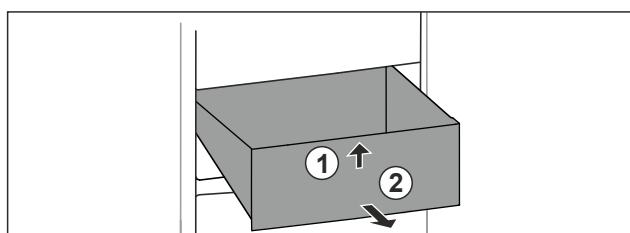

Fig. 135
- Lift up drawer at the front. Fig. 135 (1).
- Remove drawer to the front. Fig. 135 (2).